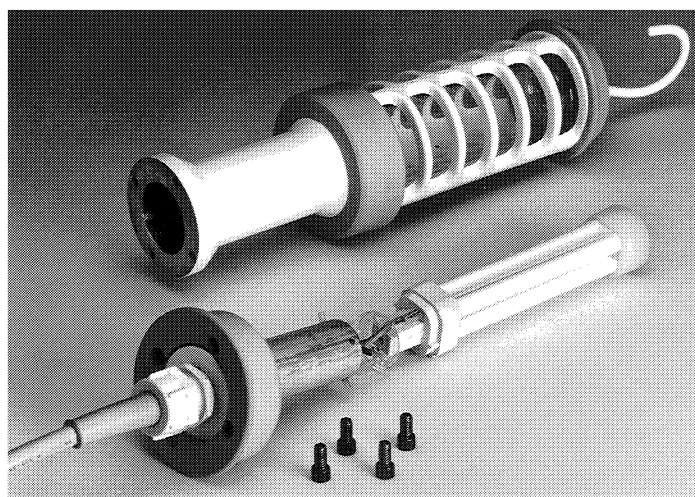

Figure 2
4. Carefully replace lamp(s) with similar type lamp(s). (See figure 2)